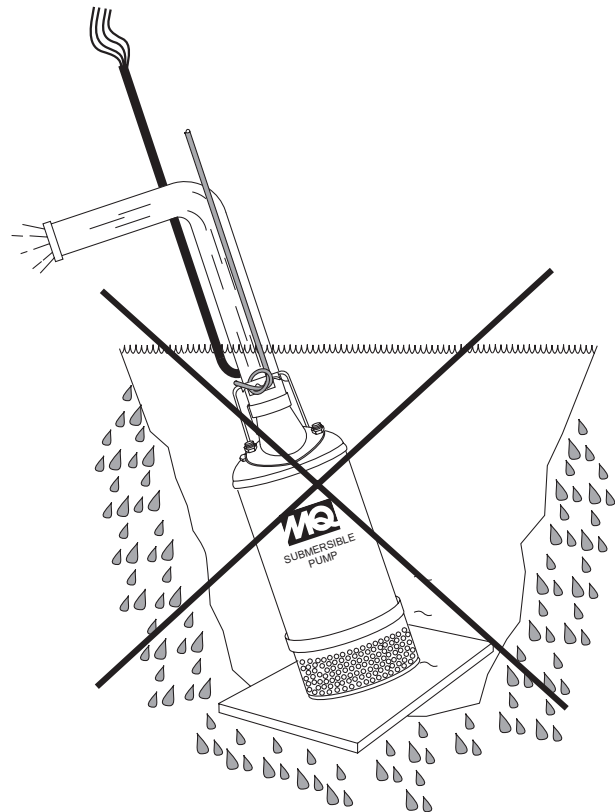

Figure 17. Submersible Pump Upright Position (Incorrect)
2. Make sure the pump is always placed in an upright position, not tilted (Figure 17). Never position the pump directly on a soft, loose bottom. Remember to attain maximum pumping capacity and prevent excessive wear, position the pump so it will not burrow itself into sand or clay.